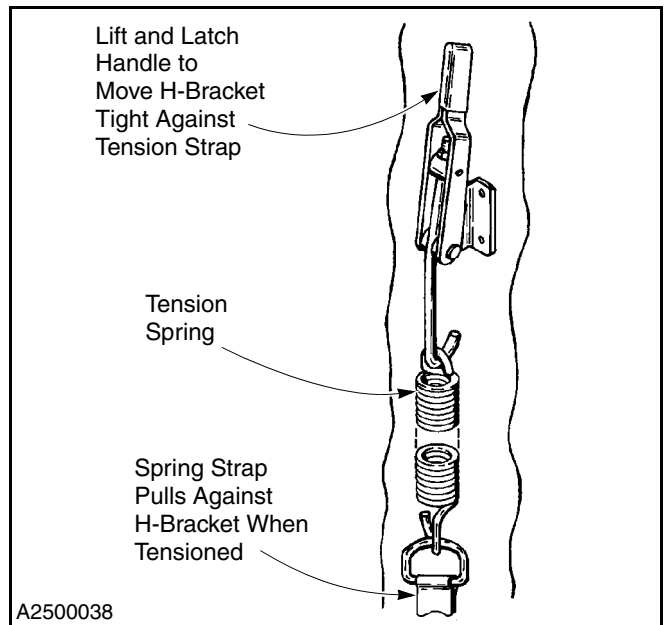

Figure 72
6. Tighten the tension strap by placing the spring release handle in the latched position. Tension is locked in place when the handle is all the way back and latched. (See Figure 72.)